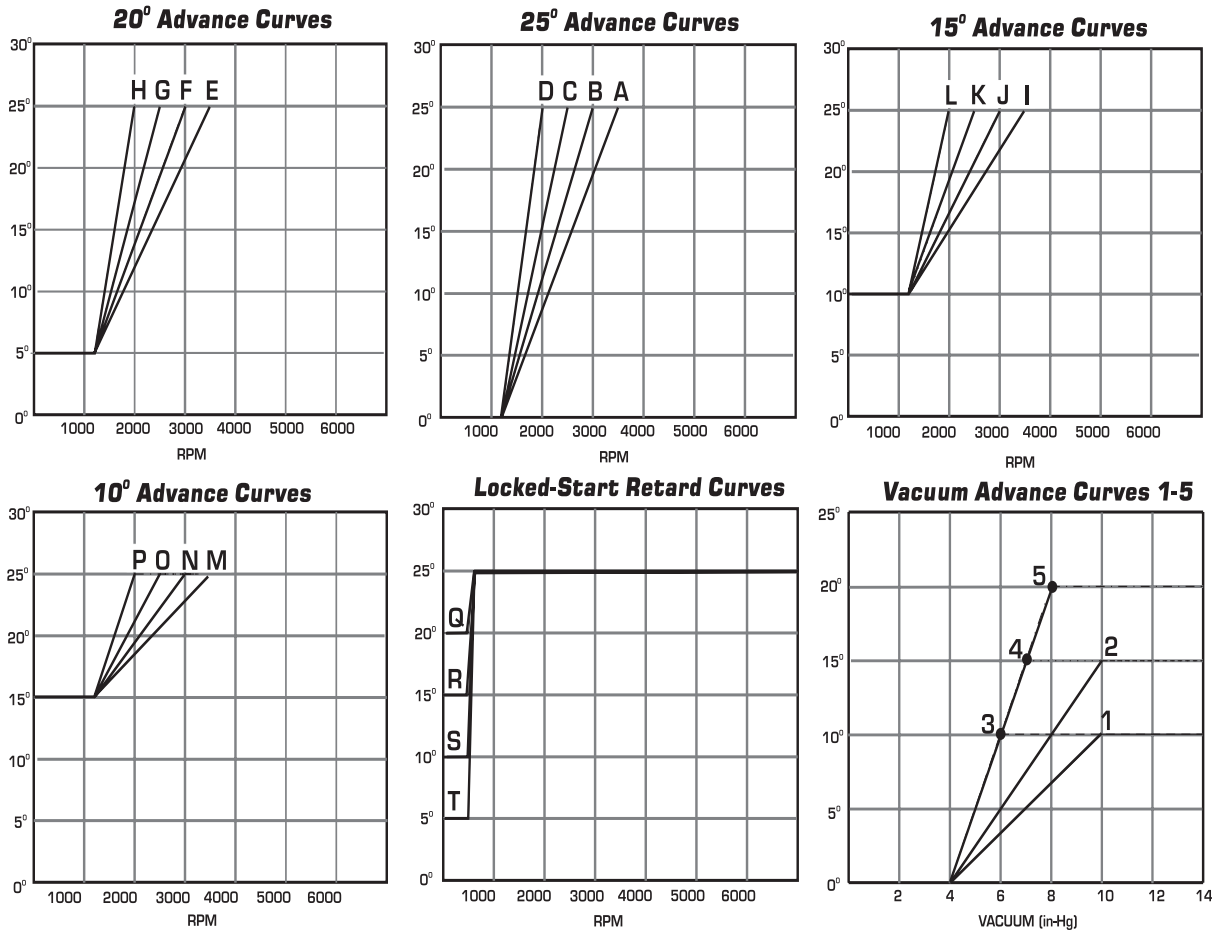

Figure 3 Available Timing Curves.
**Vacuum Advance:** The vacuum advance will advance the timing under part throttle conditions when the engine is not under a heavy load. This advance is added on to the electronic timing curve as well. The advance will begin as low as 4-in. of vacuum and will max out at 10-in. of vacuum. There is a separate chart in Figure 3 that illustrates the vacuum curve selection.
Obviously a full technical explanation of correct ignition timing would be very complicated. The best way to arrive at a suitable ignition curve for your engine is to use the Ignition Timing Factors Chart as a guide and compare it to the Advance Graphs in Figure 3 until a suitable curve is found. When selecting your advance curve, use detonation (engine ping) as an indicator of too much advance, and a decrease in power as an indicator of too little advance. Also consider how the engine cranks and starts. Too much advance can cause an engine to crank slow or even kick back. Here are a couple of suggestions.
Once you have determined your desired total timing, you'll need to select the electronic advance curve that you want to run (Review the information on page 2 to help choose a curve that matches your needs). The charts in Figure 3 show all of the different timing curves available. Note that a letter is given to the curve. Refer to the chart in Figure 4 using this letter to determine the position of the two rotary dials. If you plan to take advantage of a vacuum advance, select the vacuum curve number and cross reference it with the mechanical curve's key letter to get the switch positions.